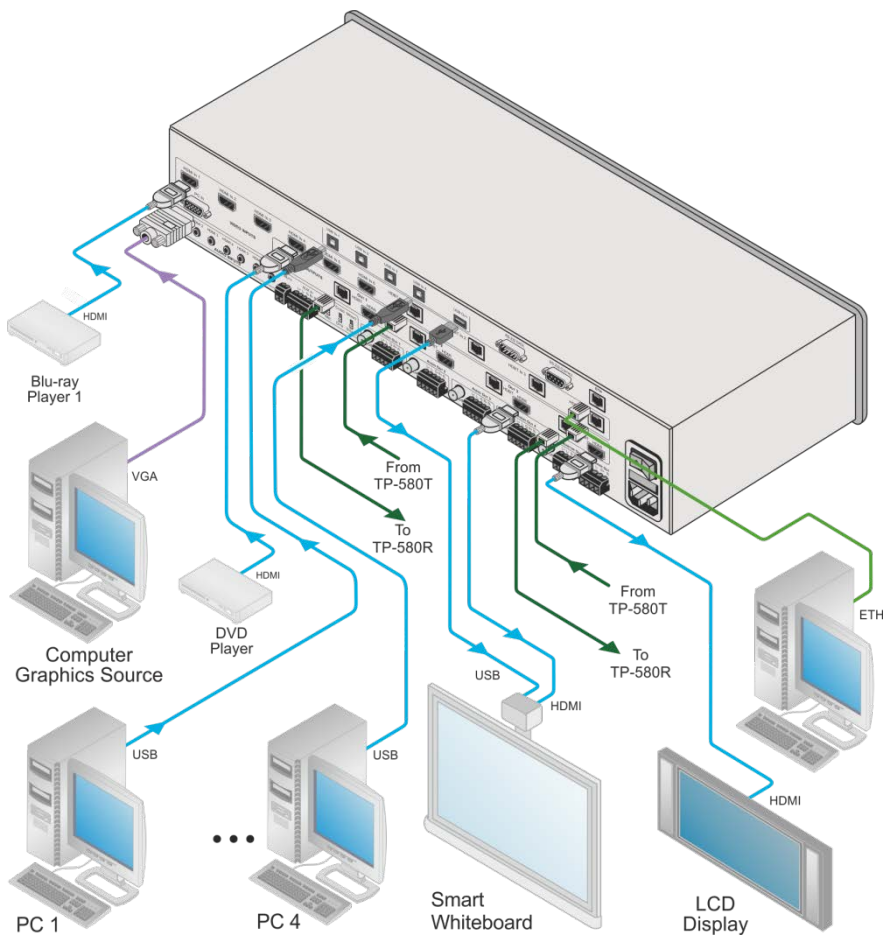

Figure 3: Connecting the VP-558 Presentation Switcher / Scaler
To connect the **VP-558**, as illustrated in the example in Figure 3, do the following:
5. Connect the audio inputs (not shown in Figure 3) to the:
6. Connect an external audio source to the AUX IN 5-pin terminal block connector (not shown in Figure 3).